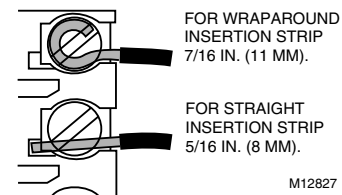

Fig. 5. Proper wiring technique.
4. Run a low voltage wire from the humidifier and equipment to the control terminals. See Fig. 6-11. Use either straight in or wraparound wiring connections. See Fig. 5.